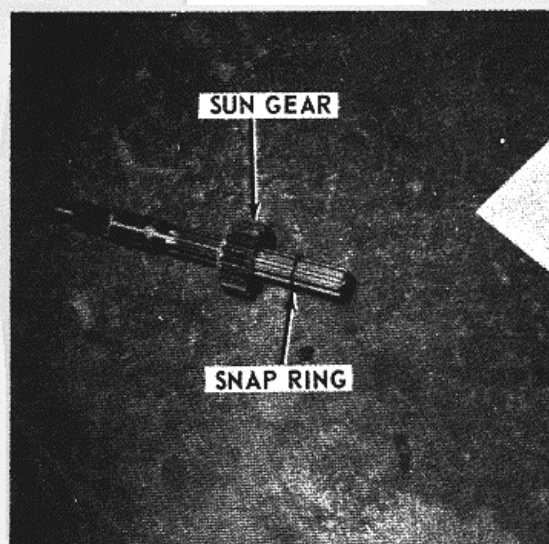

FIGURE 8-34.
o. Install the small sun gear on the brake shaft. Then install the snap ring into its retaining groove (see figure 8-34).